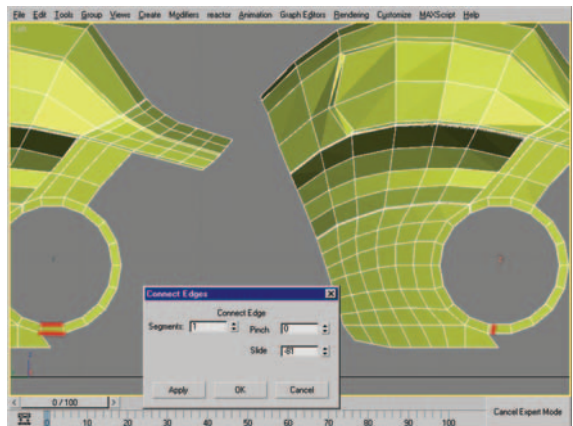

Figure 8.45 Edge selection and resulting new edge after using Connect.
46. At the Edge subobject level, select the two edges seen in Figure 8.45 (left) and use the Connect settings dialog box with one segment and a Slide value of -81 to create a new edge as seen in Figure 8.45 (right).